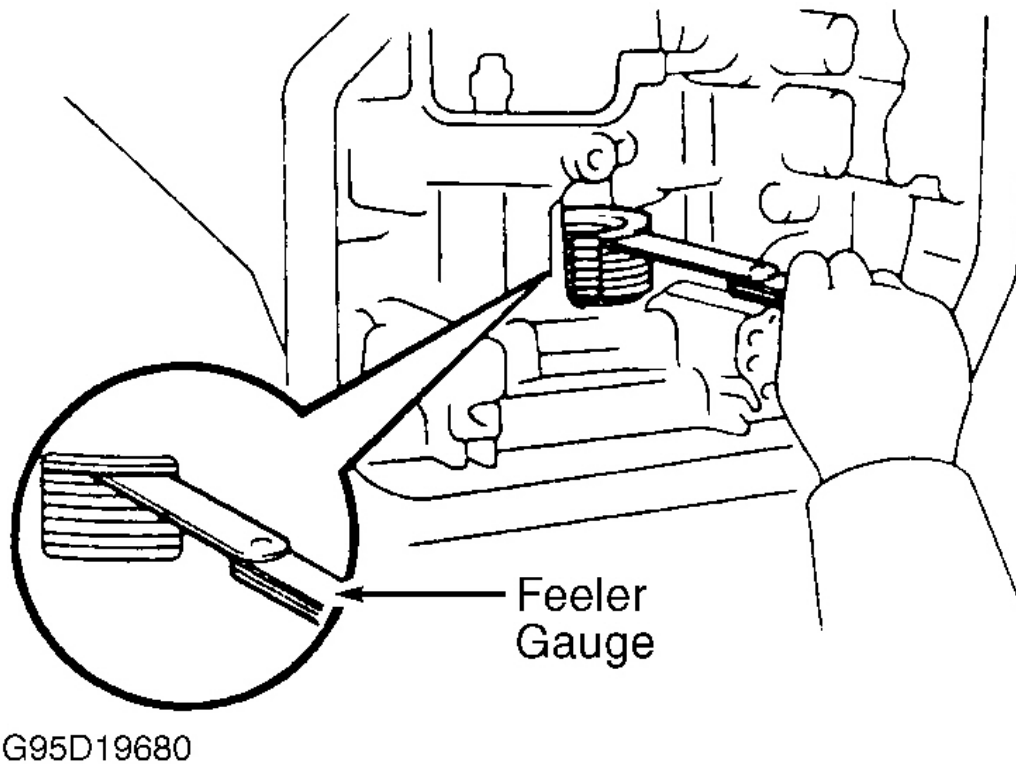

Fig. 29: Check 1st & Reverse Brake Clutch Pack Clearance
12. Remove thrust washers from both sides of planetary gear. Remove rear planetary ring gear with bearing and races. Using feeler gauge, measure 1st and reverse pack clearance. See **Fig. 29** . Clearance should be .095-.125" (2.42-3.18 mm) for A-245E and A-246E models.